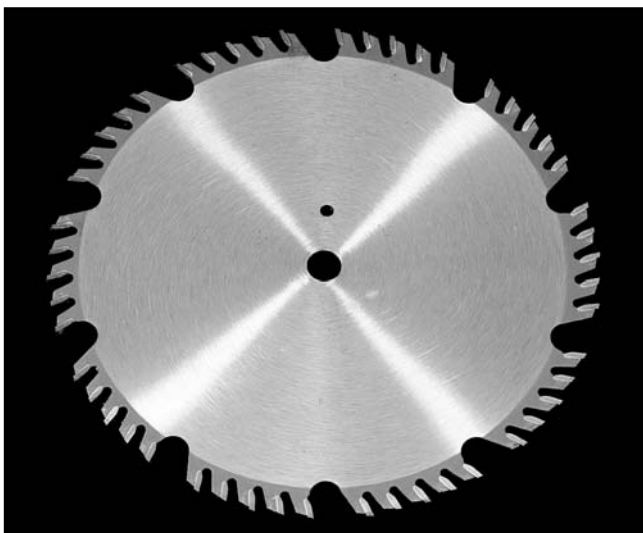

Figure 25. Combination blade.
3. **Combination Blade:** Used for cutting with and across the grain. A compromise between a rip blade and a cross-cut blade, a combination blade has 40-80 teeth, an alternate top bevel and flat or alternate top bevel and raker tooth profile. Teeth are arranged in groups of five. Gullets are small and shallow within the groups of five, similar to a cross-cut blade, large and deep between the groups, like a ripping blade. See **Figure 25**.